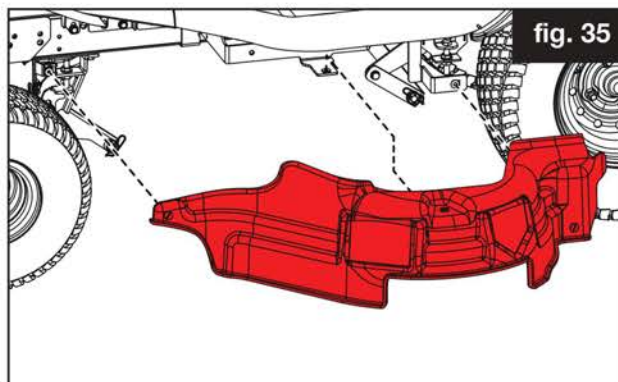

fig. 35
2. Lift the guard slightly (to remove fixing from bracket), then remove it to the side (fig. 35).